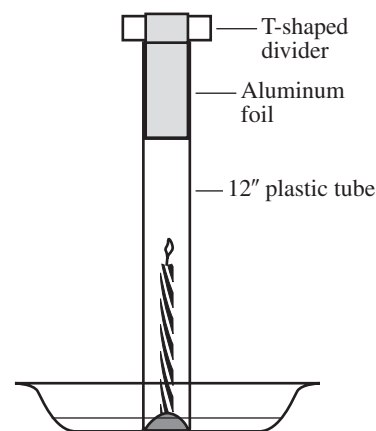

Figure 5.
- The vertical center of the T should fit snugly into the clear plastic tube. See Figure 5 on the next page.
- Press the clay into the center of a plastic weighing dish. Make sure the diameter of the 12" plastic tube will fit over the piece of clay. See Figure 5 on the next page.
7. Obtain the foil-covered T-shaped divider. Insert the vertical part of the T into the top of the tube. See Figure 5.